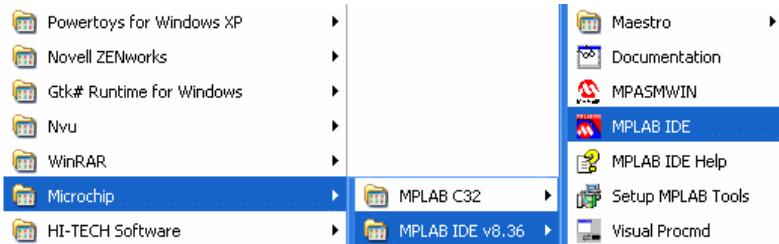

Figure 1: Starting MPLab IDE
2. Loading the MPLab IDE (see Figure 1 on right).